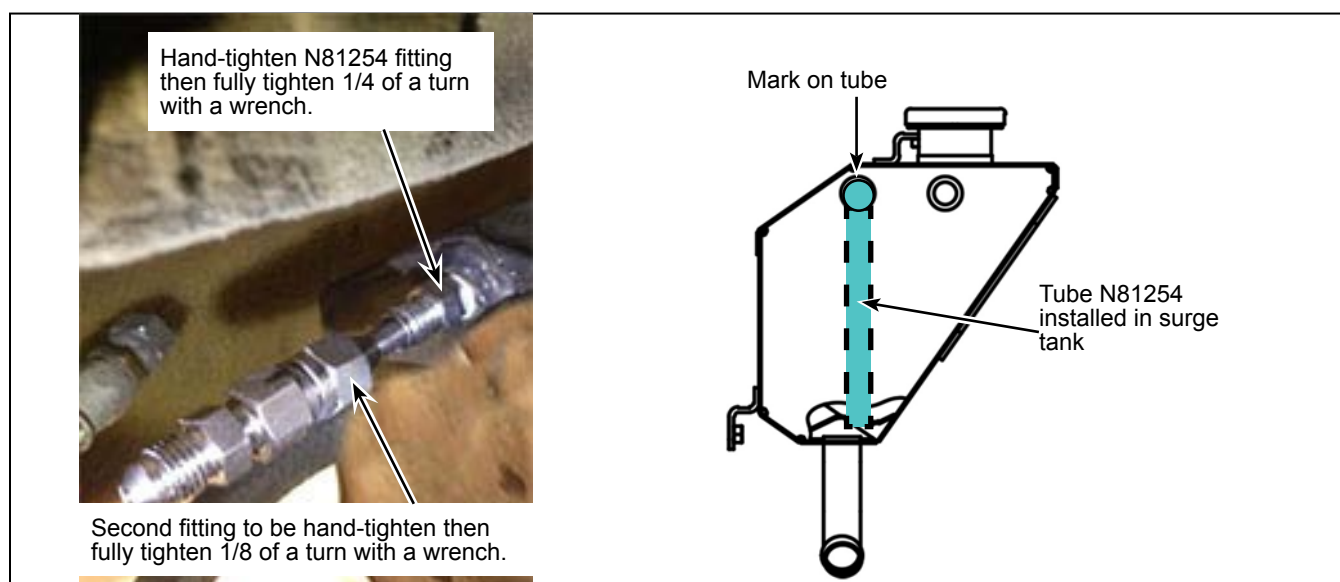

Figure 5 - Rigid Supply Tube N81254 Installation on Surge Tank
- 1.8. Install the rigid supply tube N81254 in the surge tank, making sure to position the mark on top. Hand-tighten the fitting and make another 1/4 of a turn with a wrench to fully tighten the fitting. See Figure 5.
- 1.9. Hand-tighten the second fitting on the fitting affix to the surge tank and make another 1/8 of a turn with a wrench to fully tighten the fitting. The mark should stay on top during tightening of the fitting. See Figure 5.